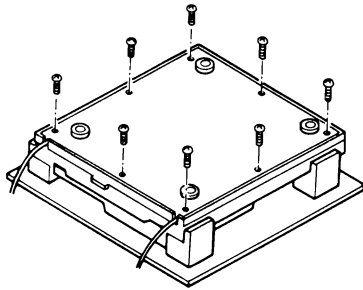

Figure 3
- Remove the 8 screws (43) that fasten the bottom cover and remove the bottom cover as shown in Figure 3.